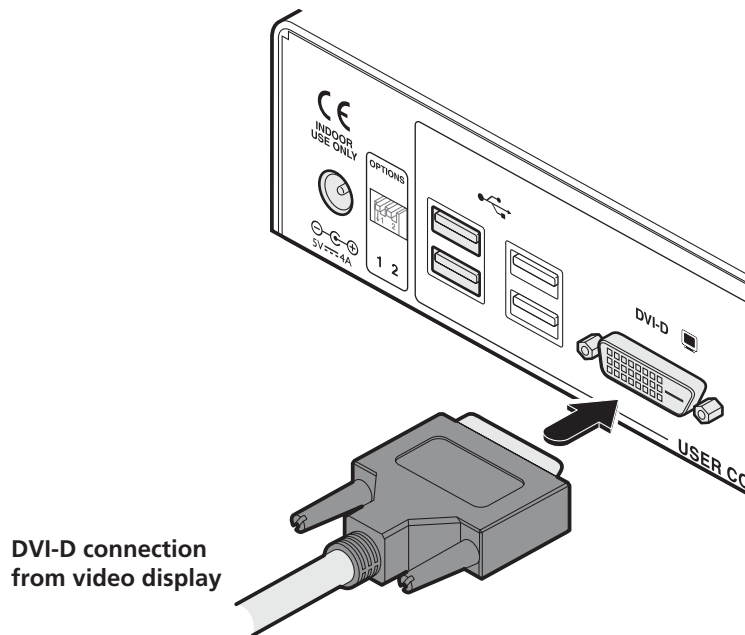

Figure 3-13. Connect the digital video link cable to the DVI-D socket.
- 1 Connect the lead from the video display to the DVI-D-1 socket on the rear panel of the ServSwitch Agility remote unit. See Figure 3-13.